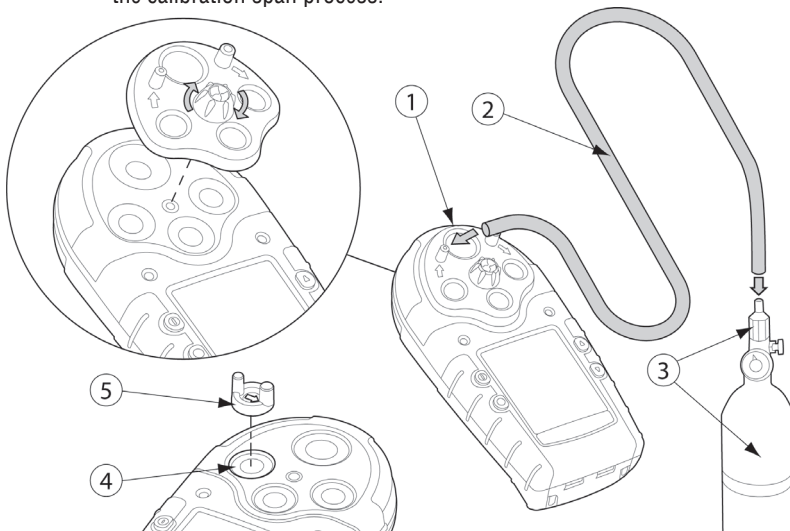

Figure 3. Applying Gas to the Sensors
The calibration cap, single gas calibration cap, and hose are shipped with the detector. Refer to Figure 3 and Table 10 for installation.
If an O_3 or ClO_2 sensor is located in the Toxic 2 position (refer to Figure 3 and Table 10), a single gas calibration cap must be used to ensure accurate calibration.
1. Insert the cap into the Toxic 2 sensor position on the detector (refer to Figure 3). Press firmly until the release tabs click.
- 5a. Attach the calibration cap (or single gas calibration cap for O₃ and ClO₂) and apply gas to the sensor(s). To attach caps, refer to Figure 3.